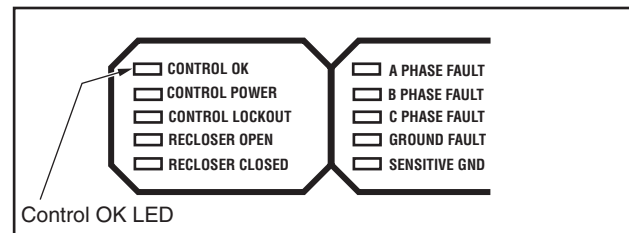

Figure 39. Control OK LED
3. Check that the LED for Control OK is illuminated on the control operator panel (**Figure 39**). This indicates the presence of DC power.